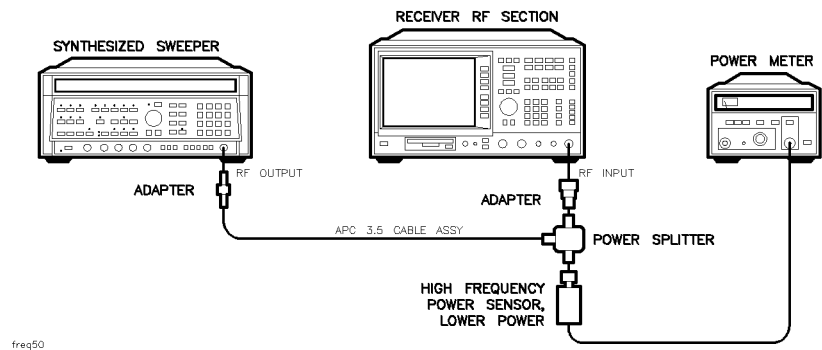

Figure 2-15. Frequency Response Test Setup,  $\geq 50$  MHz
2. Connect the equipment as shown in Figure 2-15.